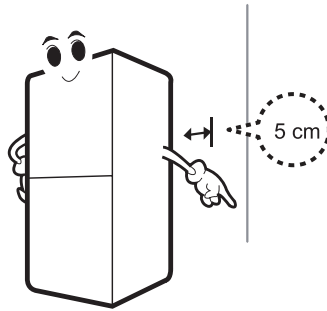

Figure 1. Installation of refrigerator from the wall
- The refrigerator is not a built-in appliance. Free space not less than 5 cm should be provided from above, from its rear and side faces for air circulation and reduction of power consumption. Fig. 1;